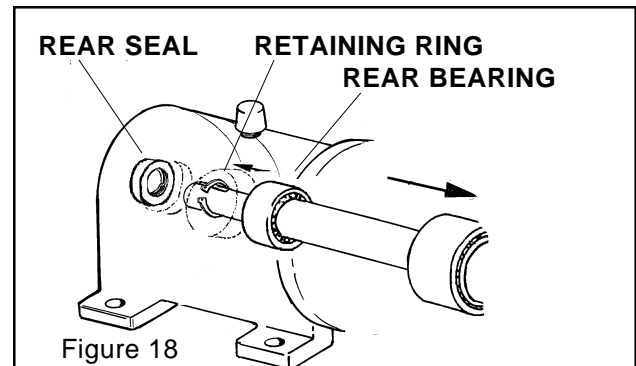

Figure 18
Rear Seal Replacement (Figure 18)
1. Remove rear seal. Remove rear bearing retaining ring. Press drive shaft out through front of gear case (through rear bearing). (Figure 18)
3. Press the rear bearing out of the front of gear case. (Figure 18)
5. Lubricate outer races and press shaft assembly into case. Replace retaining ring and rear seal. (Figure 18)